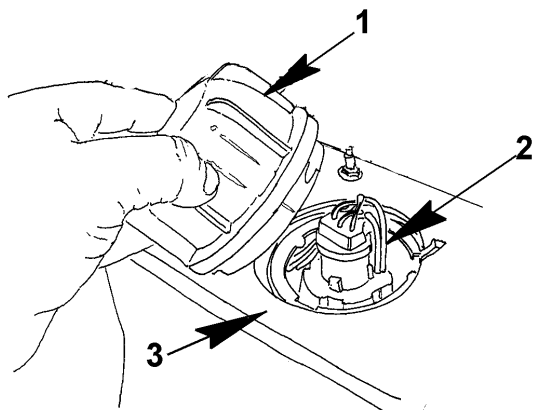
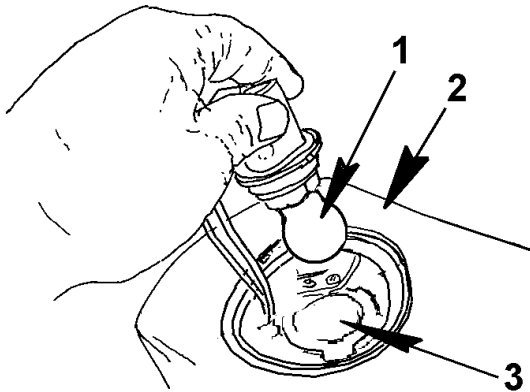

Figure 57 Directional Bulb Access
Figure 58 Directional Bulb Remove/ Install
3. Twist the socket cover (Figure 57, Item 1) to remove.
4. Locate the socket and bulb assembly (Figure 57, Item 2), twist and pull up to remove (Figure 58).